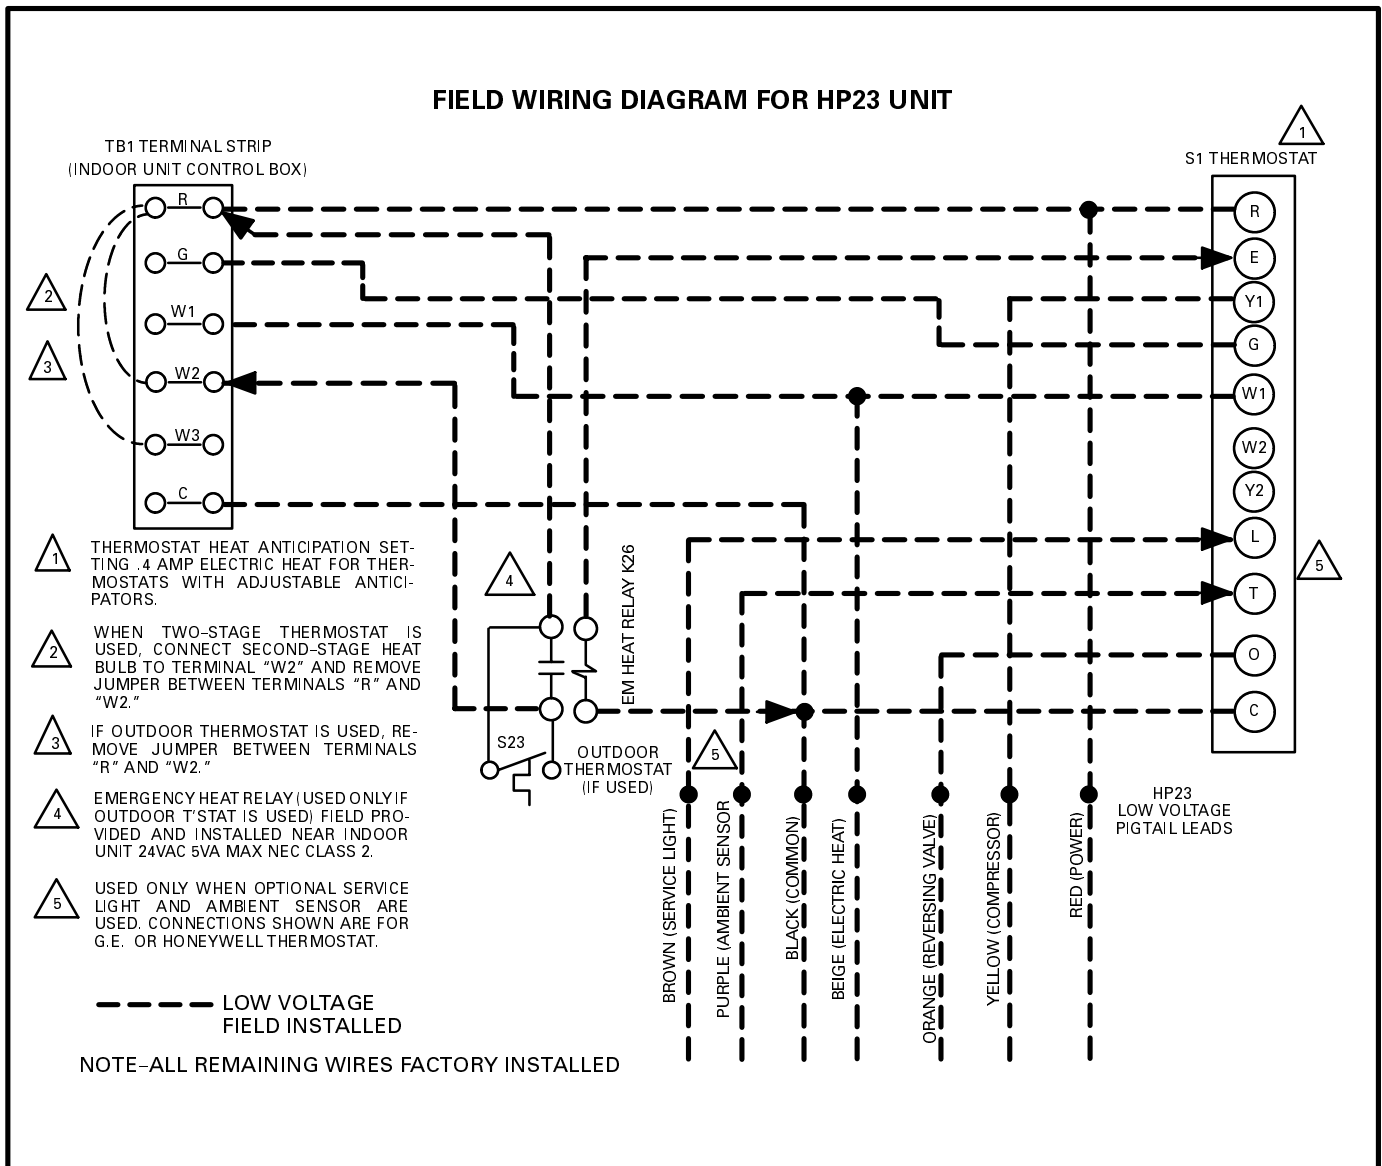

FIGURE 4
- 5- Route 24VAC control wires from the thermostat to indoor unit and from indoor unit to pigtail leads of the outdoor unit as shown in figure 4.